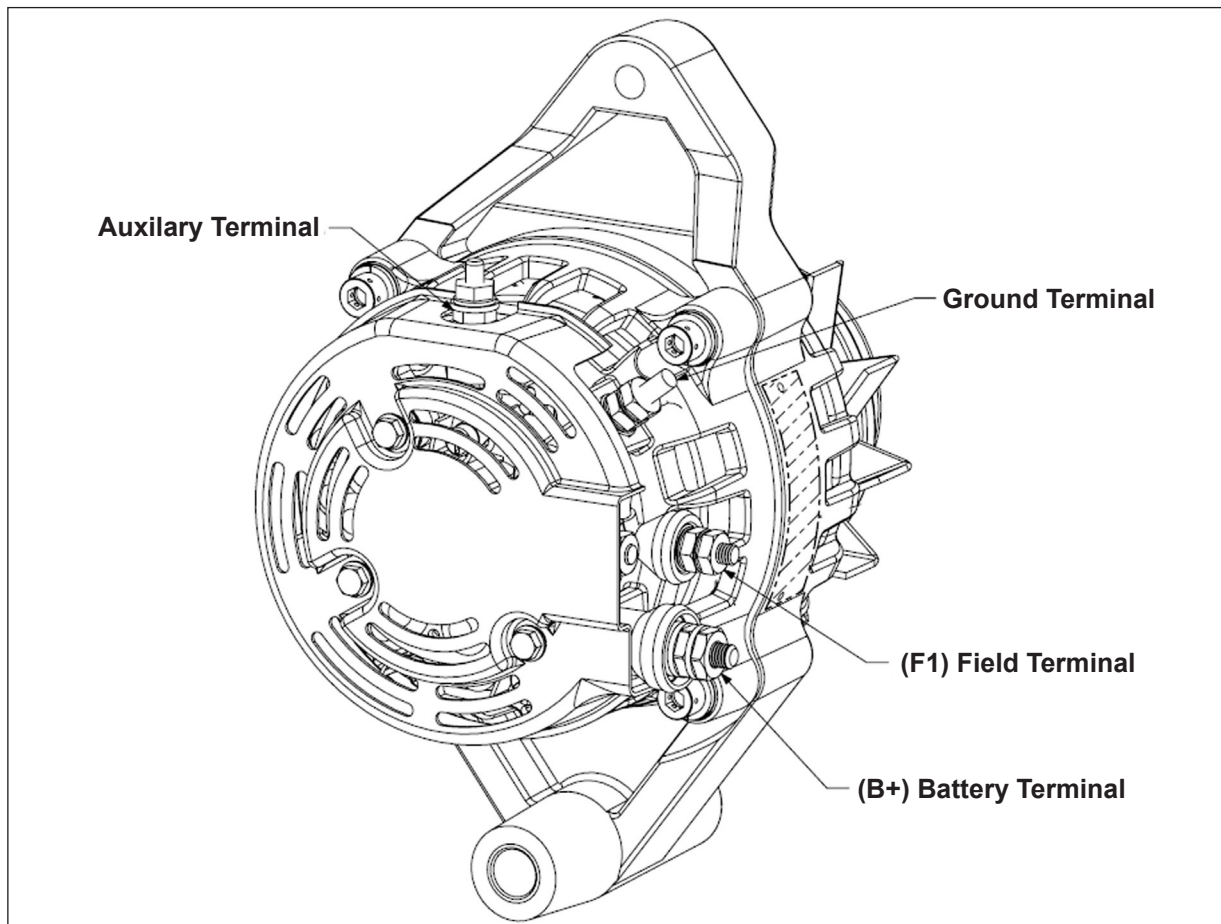

Figure 6.1 - Terminal Identification
- 2. Disconnect the F1 (field) wire by removing hardware. Refer to Figure 6.1 for terminal identification..